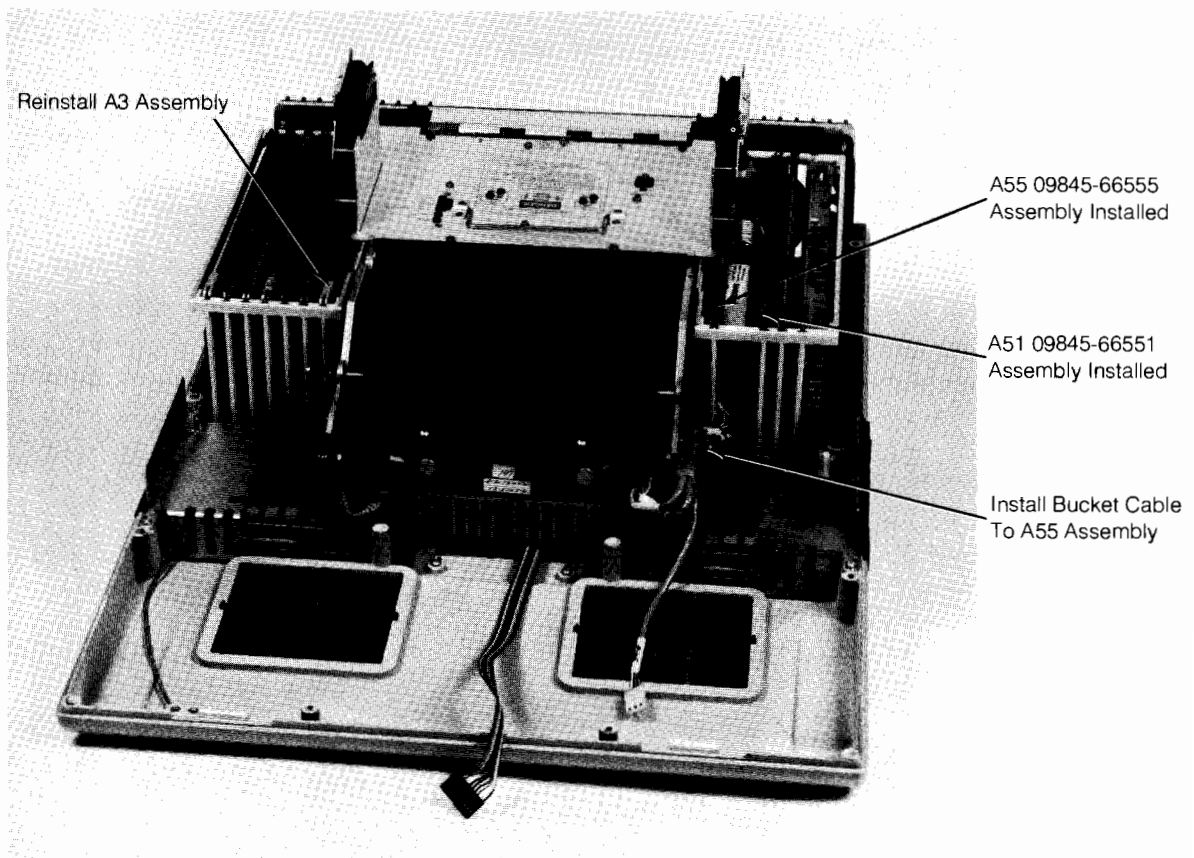

Figure 1-9: Printer PC Assembly Installation
- Install the A51 and A55 assemblies from the kit (see Figure 1-9).